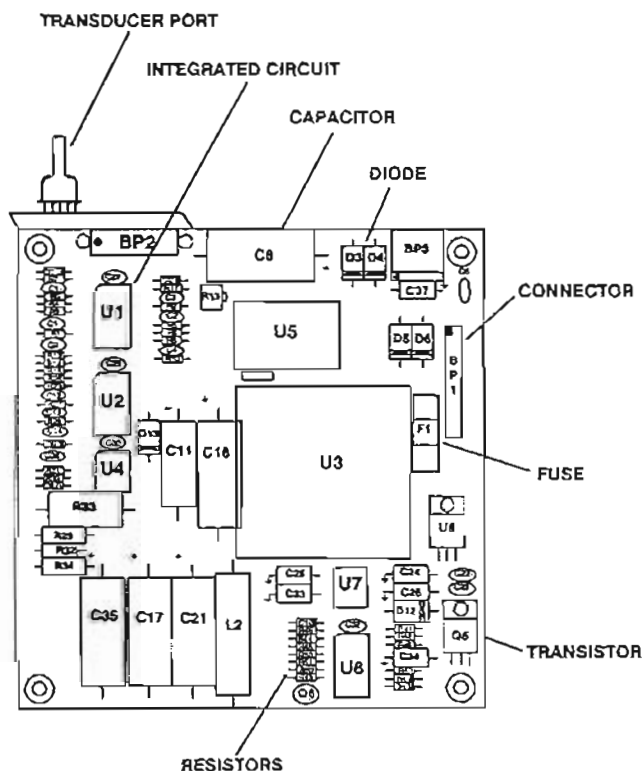

Figure 4-2. Analog/power supply PCB (model 750M).
(4) *Analog/power supply PCB (fig 4-2).*